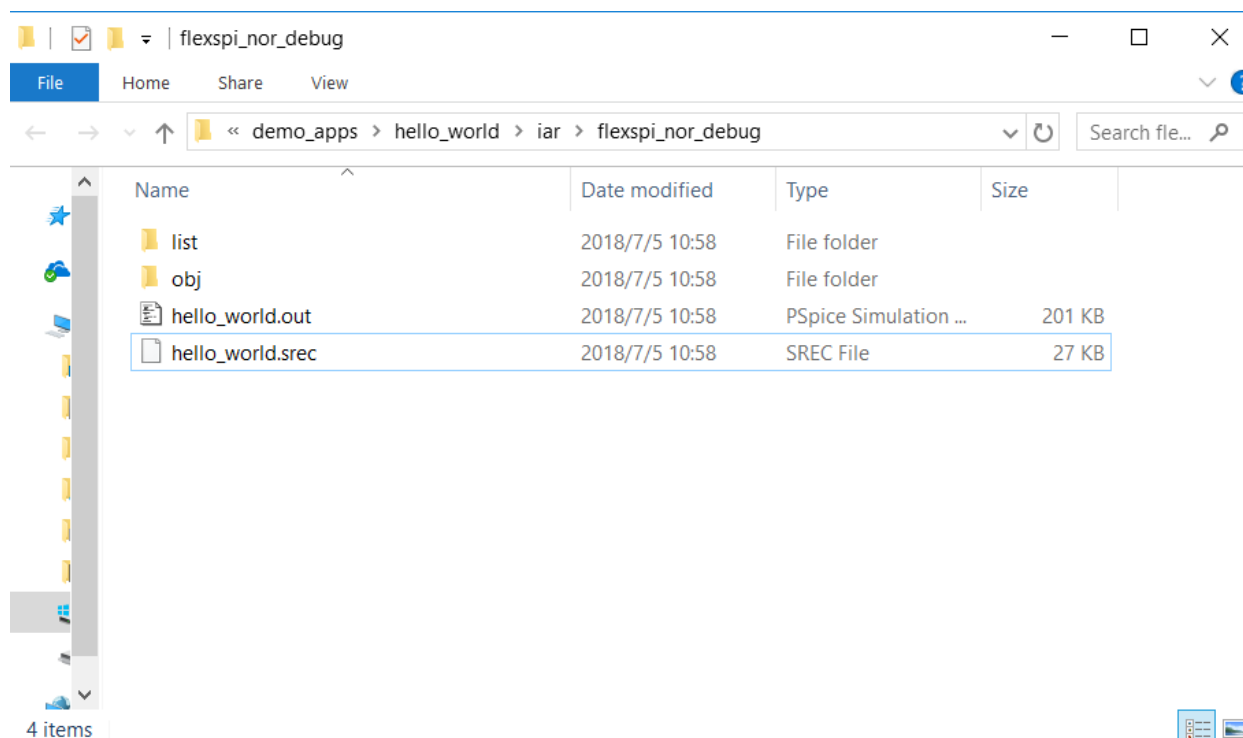

Figure 14. hello_world.srec location
- Build the project and generate the image. You can find the *hello_world.srec* at following location Figure 14.